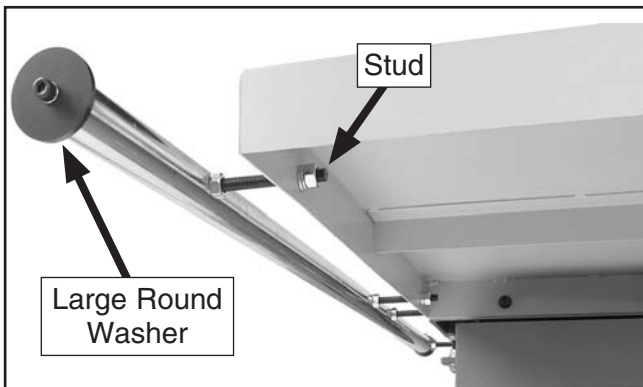

Figure 14. Round rail installed.
- Install the rail with the studs through the holes in the tables, as shown in **Figure 14**, and use the hardware removed in the previous step to secure the rail to the tables.